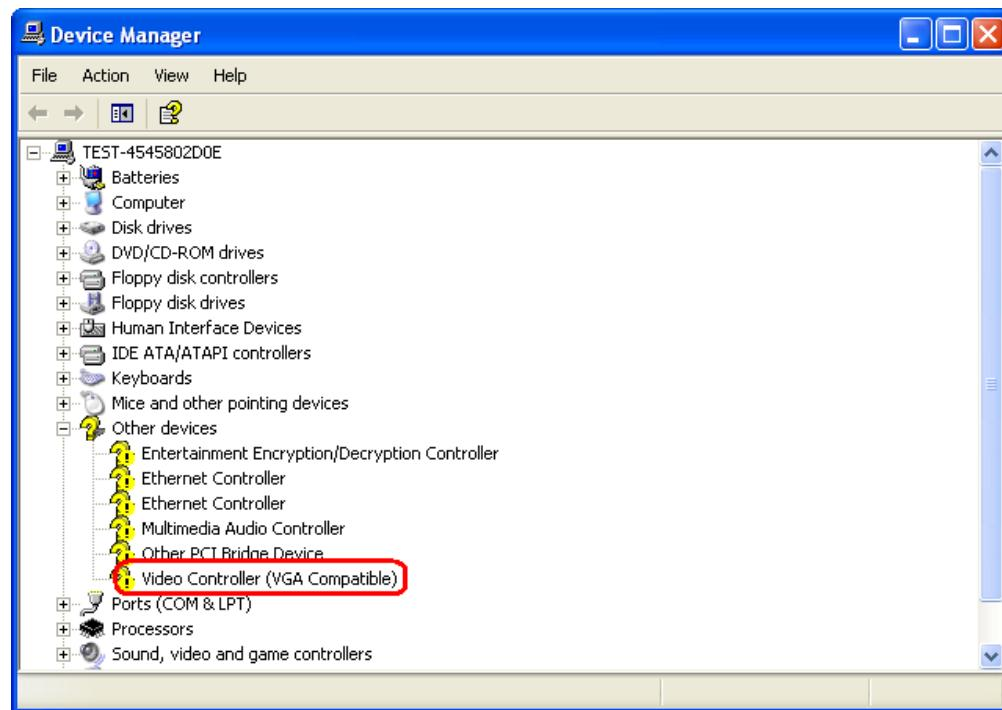

Figure 7-7: Video Controller (Device Manager)
Step 13: Right-click the **VGA CONTROLLER (VGA COMPATIBLE)** option listed under **OTHER DEVICES** in **Figure 7-7**.